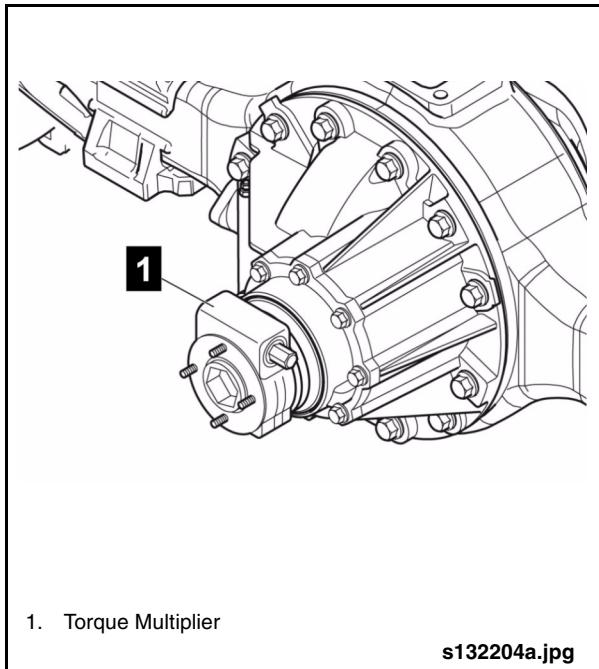

Fig. 2-33: Removing Slotted Nut
1. Loosen the slotted nut using the torque multiplier. The slotted nut must be turned counter-clockwise to loosen. See “Fig. 2-33: Removing Slotted Nut” on page 33.